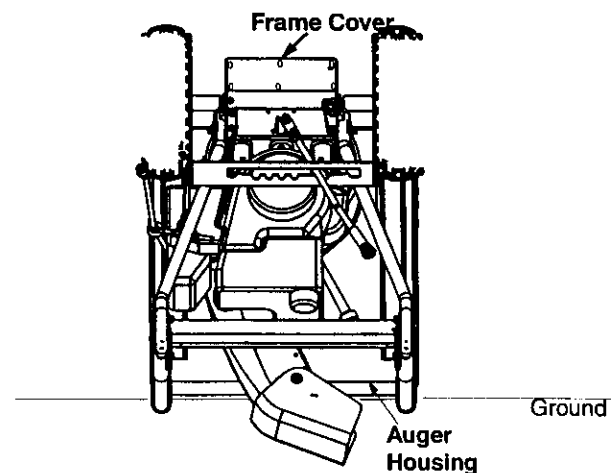

Figure 19
snow thrower so that it rests on the auger housing. See Figure 19.
- Remove the frame cover underneath the snow thrower by removing six self-tapping screws. For location of the frame cover, see Figure 19.
- Tip the snow thrower up and forward, so that it rests on the housing. See Figure 19. Remove the six self-